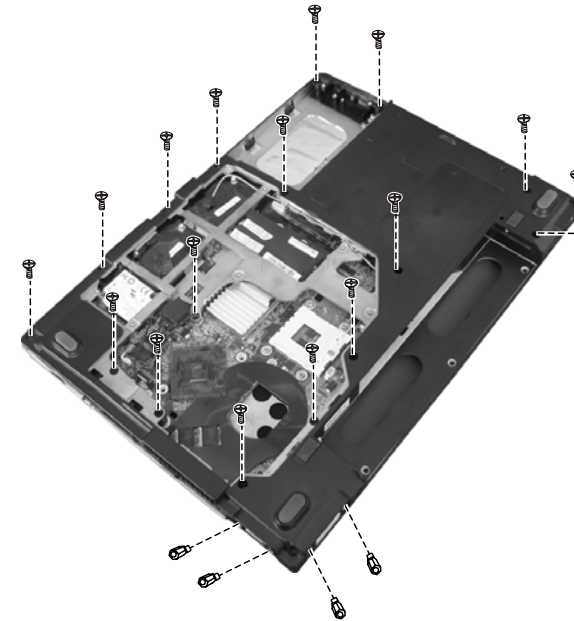

Figure 2-22 Remove the sixteen screws and four hex nuts
3. Carefully put the notebook upside down, remove the sixteen screws fastening the housing and four hex nuts fastening the housing. (Figure 2-22)